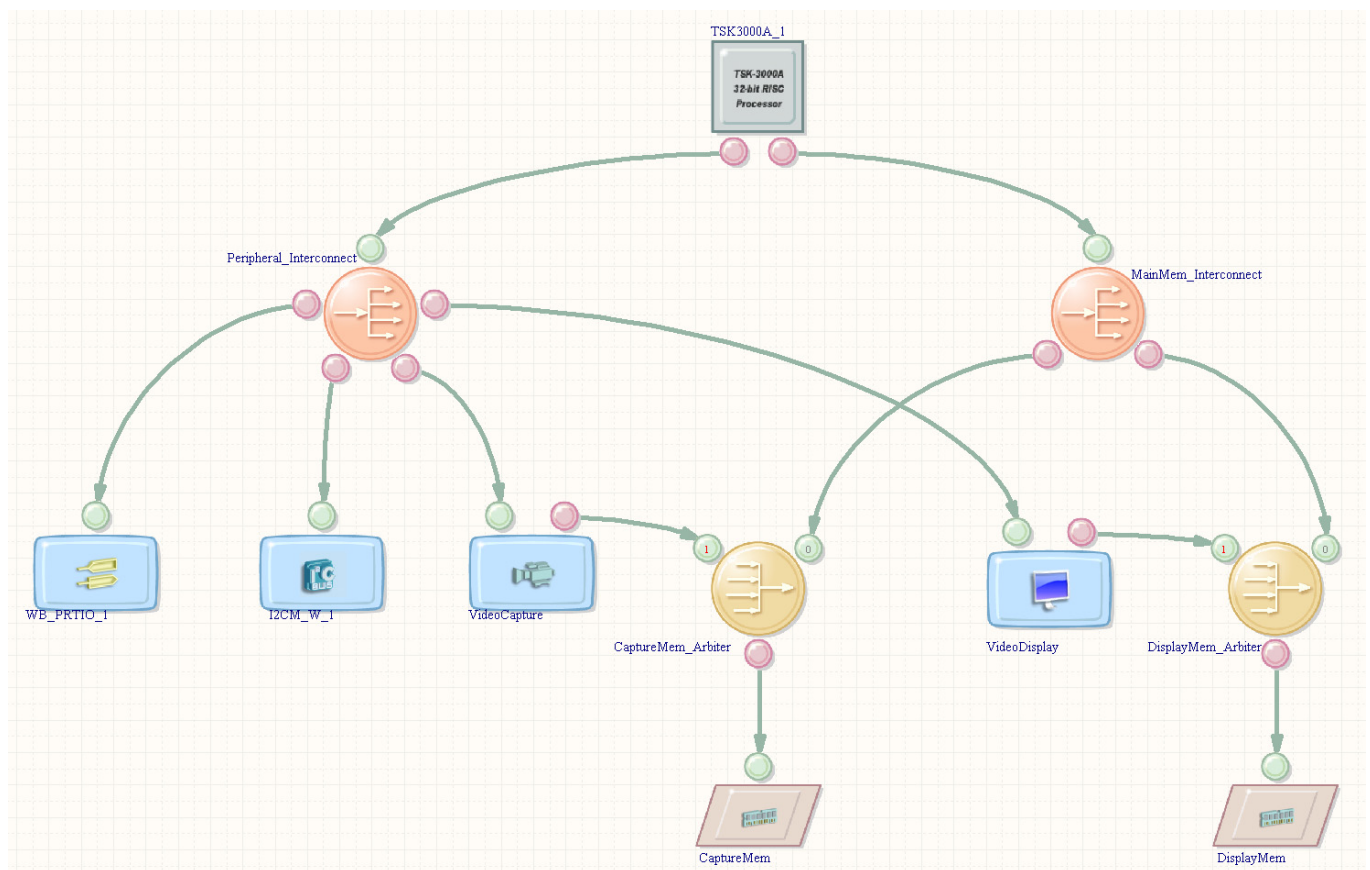

Figure 5. Completed OpenBus design for this tutorial
5. Continue placing the components indicated in Figure 4 as per the OpenBus diagram of Figure 5.
- Complete the creation of the OpenBus system using the techniques outlined above. The completed OpenBus system can be seen in Figure 5.